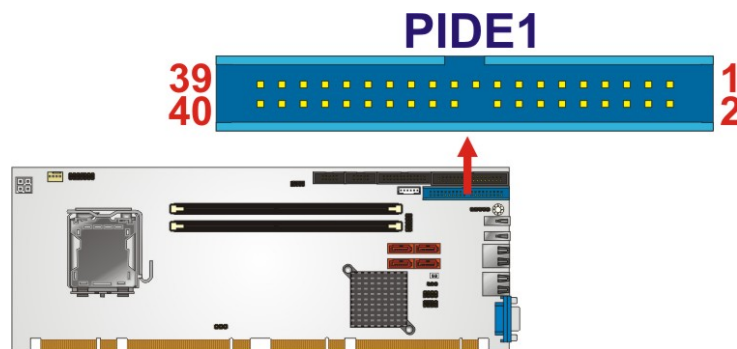

Figure 3-12: Parallel ATA (IDE) Connector Location
- CN Location:** See **Figure 3-12**